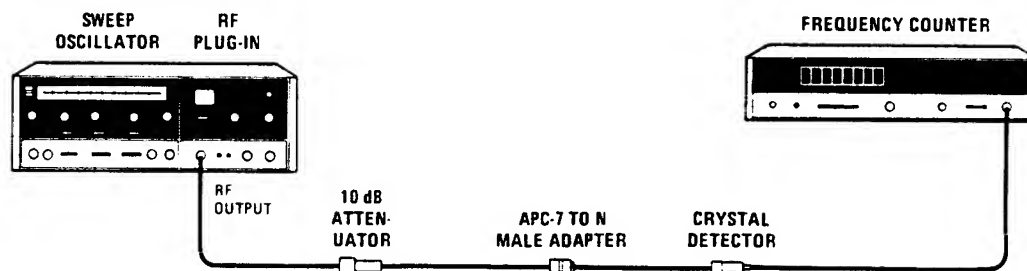

Figure 4-5. Amplitude Modulation Test Setup
- Connect equipment as shown in Figure 4-5.